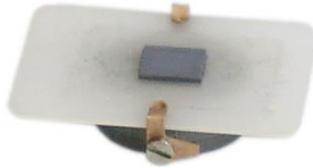

Fig. 8-4. Sapphire substrate on the sample stage
4. Place the sapphire substrate with the sample on the sample stage. Insert the substrate from the side of two support balls under the spring clips so that the clips secure the substrate while the substrate bottom is supported by the three support balls (see Fig. 8-4). If a metal substrate is used, skip this step and go to sec. 5.